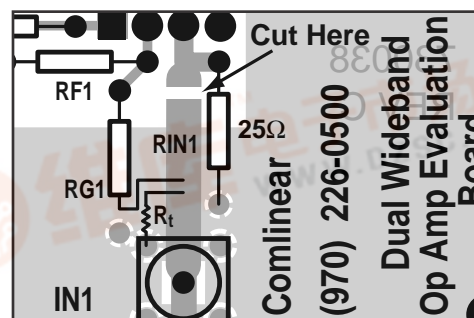

Figure 2: Modifications for Inverting Gains (CLC730038 board shown)
1. Cut the input trace as shown in Figure 2
3. Terminate  $R_g$  at the input trace instead of ground (See Figure 2)